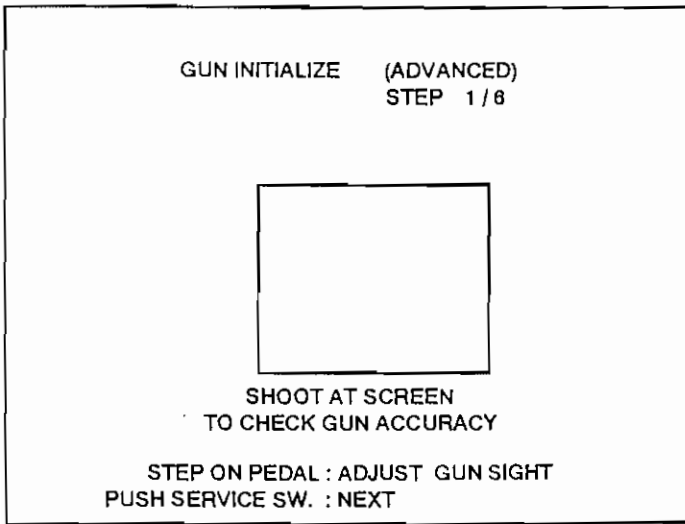
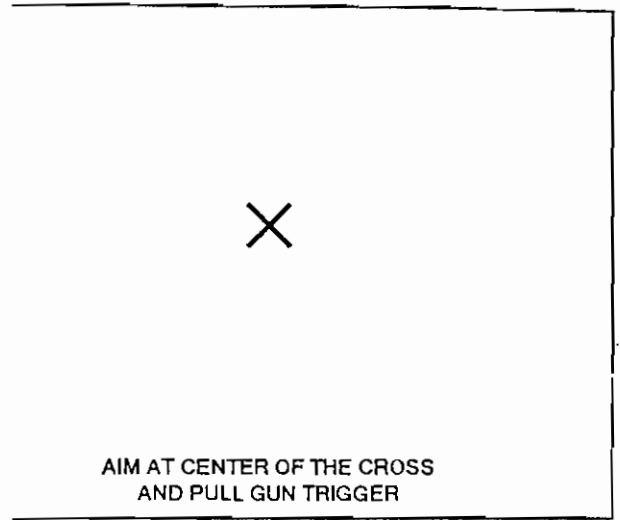
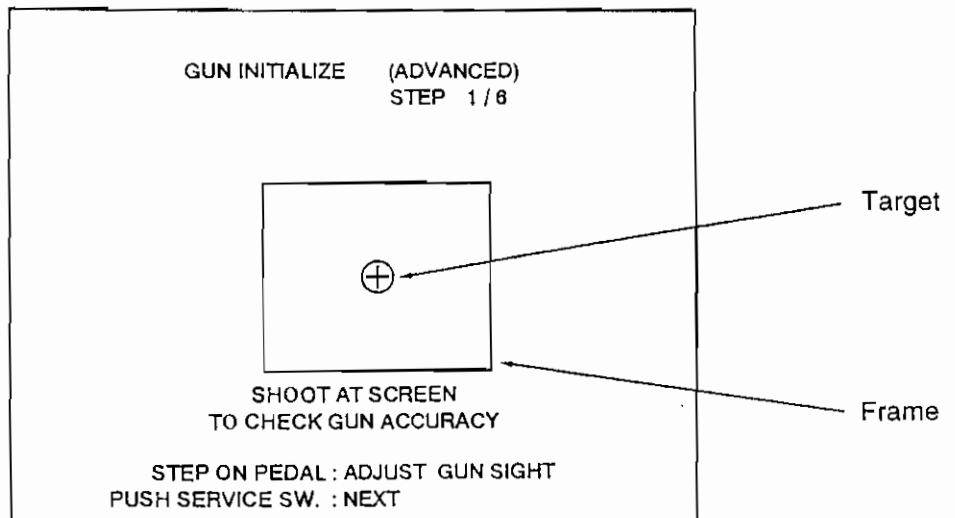

Fig. 6.17 Gun Initialization Screen 4
Fig. 6.18 Gun Initialization Screen 5
Fig. 6.19 Gun Initialization Screen 6
- 8) If gun initialization (advanced) is selected and set (the pedal is stepped on), the gun initialization setting screen shown in the figure below is displayed. (Fig. 6.17)
- 9) Step on the pedal while the screen shown in Fig. 6.17 is displayed. The screen shown in Fig. 6.18 is displayed. Aim and shoot the gun at the "X" in the top right of the screen. The gun is initialized.
After the gun has been shot, the screen returns to the screen shown in Fig. 6.17.
- 10) On the screen shown in Fig. 6.17, aim and shoot the gun at the screen. A target will appear (see Fig. 6.19). Make sure that the target appears within the frame shot at.
- 11) If the gun is not initialized properly, step on the pedal to return to the screen shown in Fig. 6.18, and initialize the gun again.